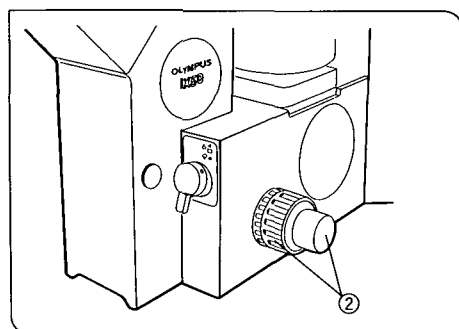

Fig. 71
2. Looking through the eyepiece, rotate the coarse and fine adjustment knobs ② to bring the specimen into focus. (Fig. 71)